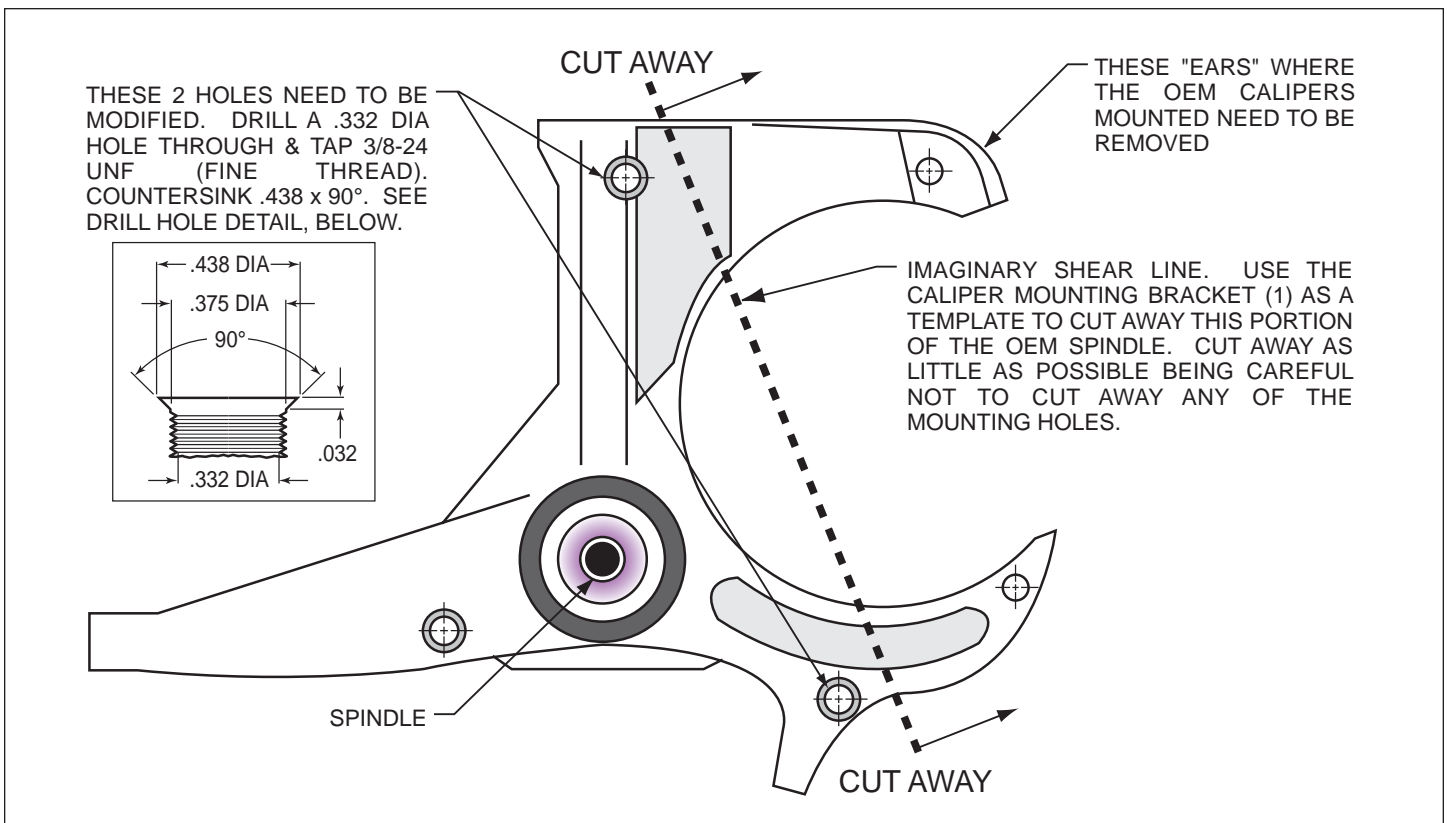
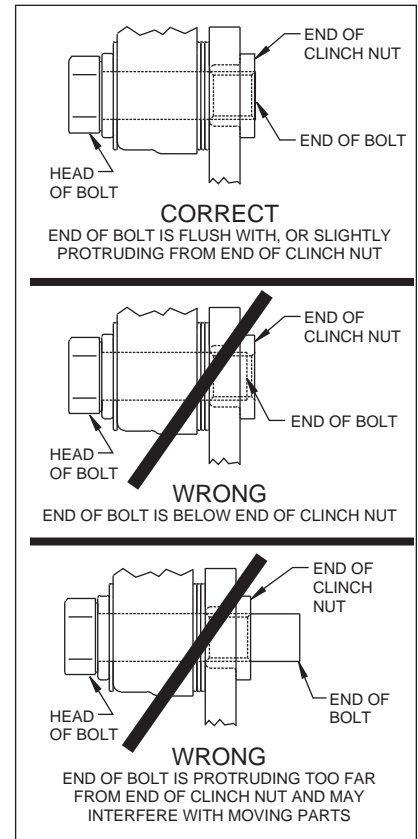

Figure 1. Steering Arm / Spindle Modifications
Figure 4.
These modifications should be performed by a qualified machinist. Refer to Figure 1 as necessary (numbers in parenthesis refer to the parts list). Only one view of the steering arm/spindle is shown, but the modifications need to be performed on both steering arm/spindles.
- Apply red *Loctite*® 271 to bolt threads (2) before assembly of the caliper bracket (1) to backing plate face of spindle. Position the caliper mounting bracket (1) onto the spindle while positioning spacers (3) between bracket and spindle face. Slip the mounting bolts (2) into the threaded spindle holes, finger tighten. Torque two bolts (2) to 30 ft-lb. **NOTE:** Be sure the heads of the caliper bracket (1) insert nuts are facing outward toward the wheel.
- Install five new wheel studs (4) into the hub (5). Torque to 77 ft-lb. **NOTE:** There are two five lug patterns in the hub (5 x 4.50 and 5 x 4.75). Make sure of the correct hole pattern for the correct wheel application before installing studs into hub.
- Pack the large inner bearing cone (6) with high temperature disc brake bearing grease (available from your local auto parts store) and install into the backside of the hub (5).
- Install the grease seal (7) by pressing into the backside of the hub (5).
- Orient the rotor (9) and the rotor adapter (8) as shown in Figure 1. Attach the rotor to the adapter using bolts (10). Using an alternating sequence, apply red *Loctite*® 271 to the threads, and torque to 25 ft-lb.
- Mount the adapter/rotor assembly (8/9) to the hub (5) using bolts (11), as shown in Figure 1. Using an alternating sequence, apply red *Loctite*® 271 to the threads, and torque to 55 ft-lb.
- Pack the small outer bearing cone (12) with high temperature disc brake bearing grease and install into front of hub (5). Slide the hub/rotor assembly (5 and 9) with outer bearing cone (12) onto the spindle. Secure using supplied washer (13), original adjusting nut and nut locking device.
- Install the dust cap (15) onto the hub (5). Friction created by the o-ring (14) on the dust cap (15) keeps it from unscrewing. The O.D. of the existing spindle washer may be larger than the I.D. of the dust cap (15) not allowing it to seat against the hub face. Therefore, use the spindle washer (13) supplied with the kit instead of the stock washer.
- NOTE:** Please reference the caution statement at the beginning of the assembly instructions. This kit contains distinct right and left hand calipers that must be mounted in a specific direction, as described below. Mount the caliper (16) onto the caliper bracket (1) using bolts (18) and washers (17), as shown in Figure 1. Initially place two .032" thick shims (19) on each bolt between the caliper and the bracket. Ensure that the caliper is mounted so the largest pistons are at the rotor exit end of the caliper, in relation to the direction of rotor rotation. Temporarily tighten the mounting bolts and view the rotor (9) through the top opening of the caliper. The rotor should be centered in the caliper. If not, adjust by adding or subtracting shims (19) between the bracket and the caliper. Always use the same amount of shims on each of the two mounting bolts. **NOTE:** The end of the bolt must be flush with or slightly protruding from the head of the clinch nut in the bracket. If necessary, place spare shims between the washer and the caliper mounting ear to achieve the proper clinch nut engagement, as shown in Figure 4. Always use the same amount of shims on both the top and bottom caliper mounting bolts. Once the caliper alignment and clinch nut engagement are correct, remove the mounting bolts and caliper.
- Remove the two pad retaining pins from the caliper (16) by carefully popping out the pin retaining clips and sliding out the pins. Insert the brake pads (20) into the caliper from the bottom, Figure 1, with the friction material facing the rotor. Secure the brake pads in place with the pad retaining pins and clips. Reinstall the caliper onto the caliper mounting bracket. Apply red *Loctite*® 271 to bolt threads (18), and torque to 40 ft-lb.